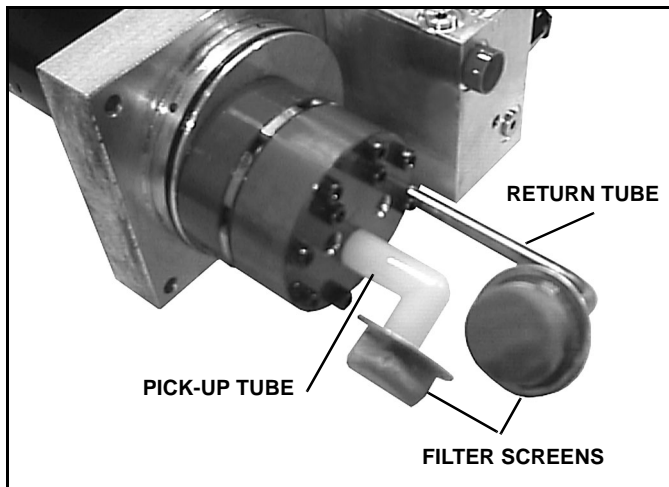

Figure 1-39
8. Loosen the clamp securing the oil reservoir to the pump assembly and remove the oil reservoir being careful not to damage the filter screen while removing the oil reservoir. (See Figure 1-39).
11. Visually check that the pickup tube and filter face down. (See Figure 1-39). If not, rotate the pickup tube until the tube and filter face down.